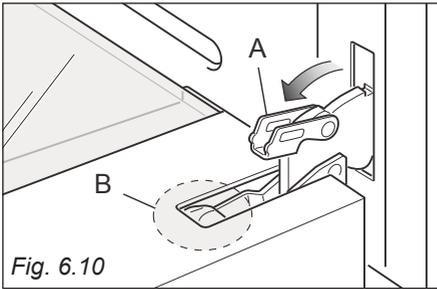
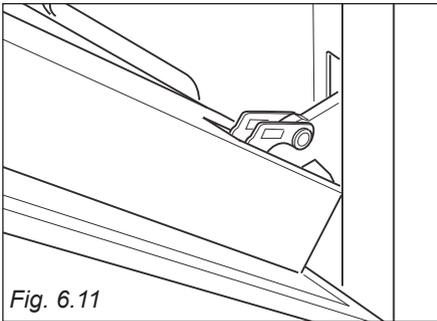

Fig. 6.10
Fig. 6.11
- Open the lever "A" completely on the left and right hinges (fig. 6.10).
- Gently close the door (fig. 6.11) until left and right hinge levers "A" are hooked to part "B" of the door (fig. 6.10).